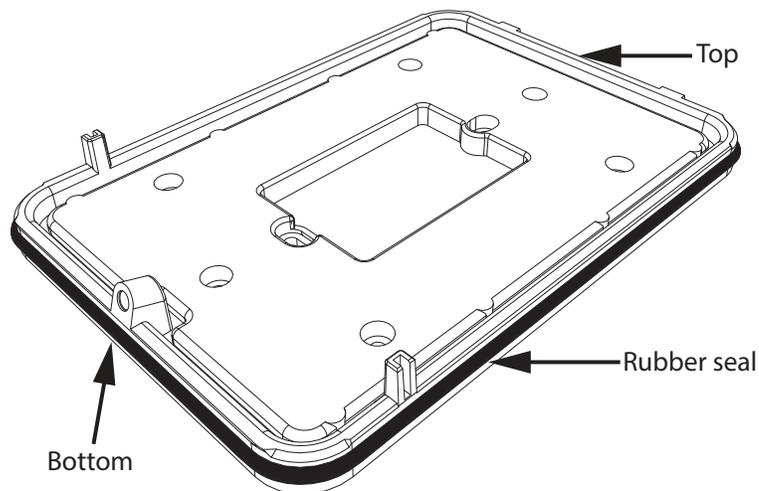

Figure 4. Do not damage the rubber seal
- Figure 4. Do not damage the rubber seal **11**
Note: The mounting plate comes with a rubber seal around the edge (Figure 4). Do not remove, cut, or damage this rubber seal in any way.